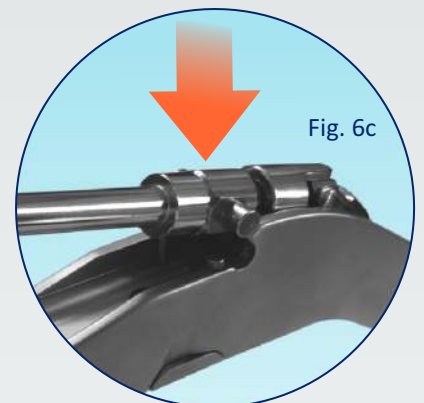

Fig. 6c
- ③ Push in the center to lodge the Articulated Rod, taking care to properly align the teeth (Fig. 6c).